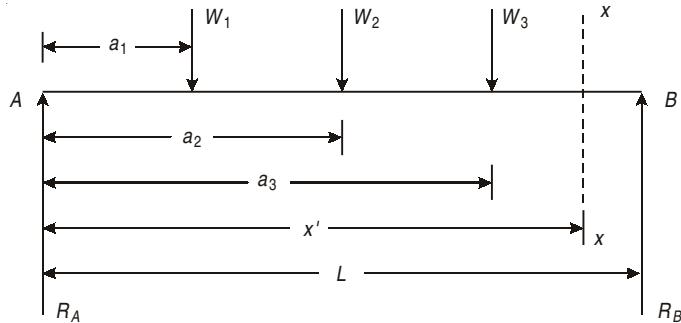

Fig. 4.6
- For example, consider a beam subjected to loading as shown in Fig. 4.6.